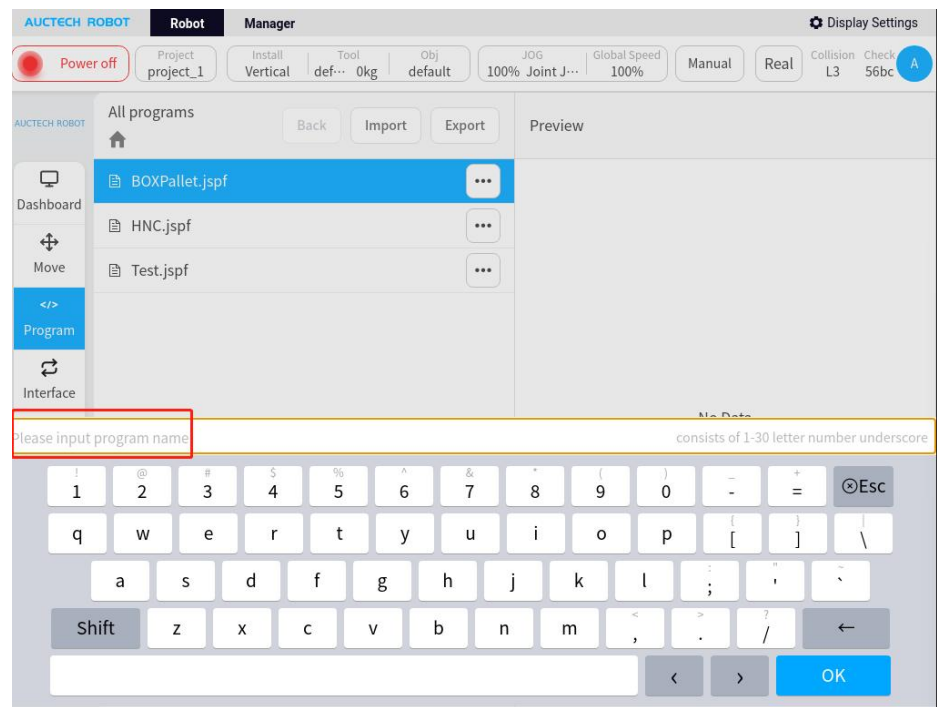

Figure 5
8、 After the palletizing process package is installed, open the main page, select “Program”, and click the button “New Program”, as shown in Figure 5.